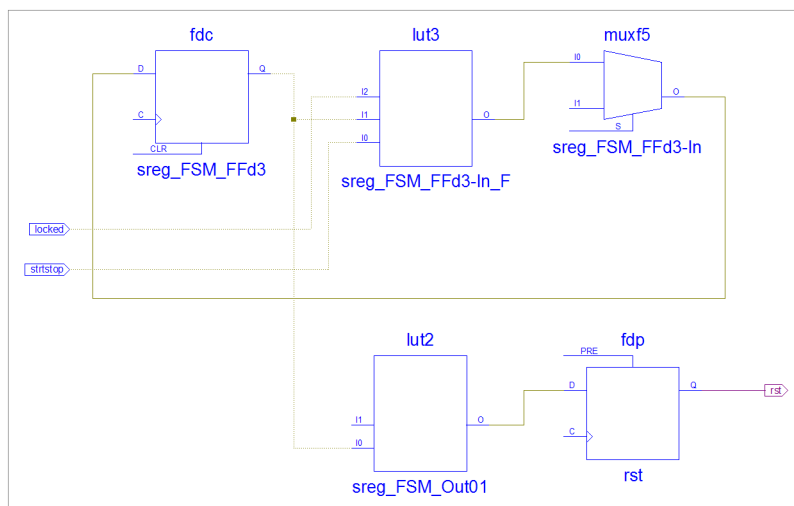

Figure 5-17: Hierarchical Boundaries
6. Further incremental design exploration shows that schematic expansion stops at **MACHINE** hierarchy boundaries as shown in Figure 5-17.